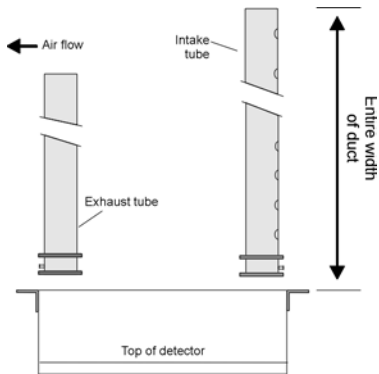

Figure 1: Sampling Tube Orientation
The holes must be facing into the air flow (see Figure 1). The exhaust tube is a piece of steel piping measuring 7 inches.
8. Verify that air velocity is appropriate for the type of smoke detector you are using by checking specifications of installation and, if necessary, by using air velocity meter (Alnor Model 6,000P or equivalent). See Figure 1.